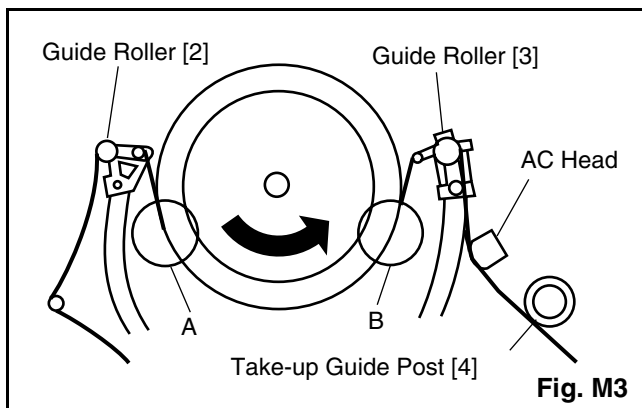
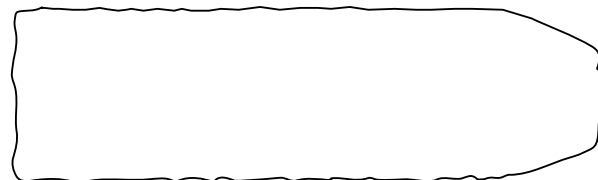
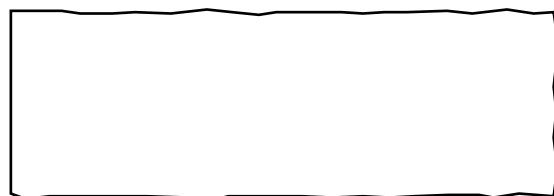

Fig. M3
Fig. M8
Fig. M9
1. Playback a blank cassette tape and check to see that the tape runs without creasing at Guide Rollers [2] and [3], and at points A and B on the lead surface. (Refer to Fig M3 and M4.)
2. If creasing is apparent, align the height of the guide rollers by turning the top of Guide Rollers [2] and [3] with a Guide Roller Adj. Screwdriver. (Refer to Fig. M3 and M5.)
3. Check to see that the tape runs without creasing at Take-up Guide Post [4] or without snaking between Guide Roller [3] and AC Head. (Fig. M3 and M5)
2. Playback the Gray Scale on the Alignment Tape (FL6NS8). Set the Tracking Control Circuit to the center position by pressing CH UP button and then "PLAY" button on the unit. Adjust the height of Guide Rollers [2] and [3] (Fig. M3, Page 2-3-3) watching the oscilloscope display so that the envelope becomes as flat as possible. To do this adjustment, turn the top of the Guide Roller with the Guide Roller Adj. Screwdriver.
3. If the envelope is as shown in Fig. M7, adjust the height of Guide Roller [2] (Refer to Fig. M3) so that the waveform looks like the one shown in Fig. M9.
4. If the envelope is as shown in Fig. M8, adjust the height of Guide Roller [3] (Refer to Fig. M3) so that the waveform looks like the one shown in Fig. M9.
5. When Guide Rollers [2] and [3] (Refer to Fig. M3) are aligned properly, there is no envelope drop either at the beginning or end of track as shown in Fig. M9.
Note: Upon completion of the adjustment of Guide Rollers [2] and [3] (Refer to Fig. M3), check the X Value by pushing the CH UP or DOWN buttons alternately, to check the symmetry of the envelope. Check the number of pushes to ensure center position. The number of pushes CH UP button to achieve 1/2 level of envelope should match the number of pushes CH DOWN button from center. If required, redo the "X Value Alignment."